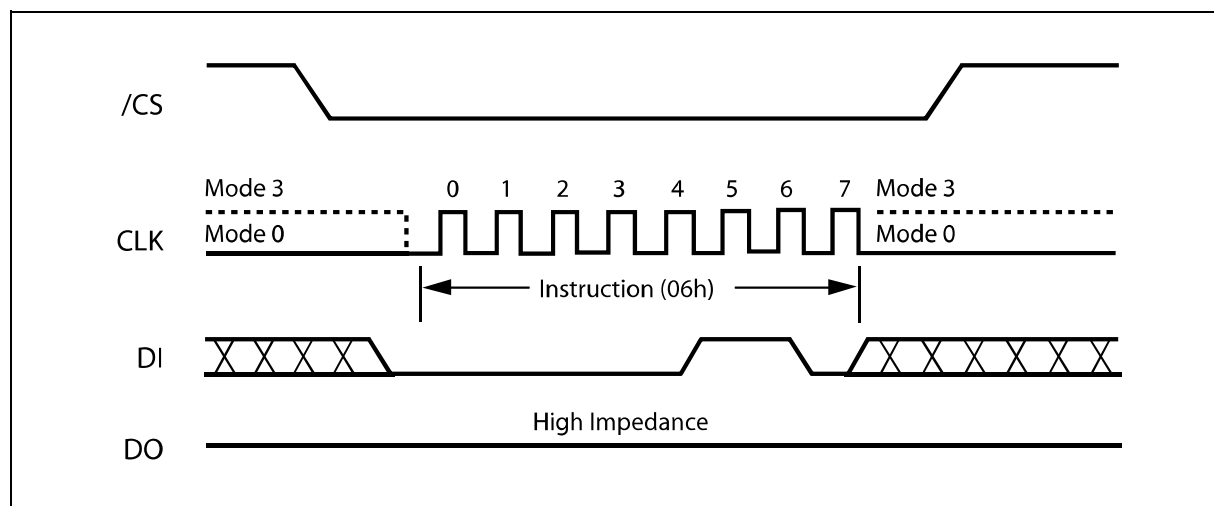

Figure 4. Write Enable Instruction Sequence Diagram
Instructions vary in length from a single byte to several bytes and may be followed by address bytes, data bytes, dummy bytes (don't care), and in some cases, a combination. Instructions are completed with the rising edge of edge /CS. Clock relative timing diagrams for each instruction are included in figures 4 through 30. All read instructions can be completed after any clocked bit. However, all instructions that Write, Program or Erase must complete on a byte boundary (/CS driven high after a full 8-bits have been clocked) otherwise the instruction will be terminated. This feature further protects the device from inadvertent writes. Additionally, while the memory is being programmed or erased, or when the Status Register is being written, all instructions except for Read Status Register will be ignored until the program or erase cycle has completed.
The Write Enable instruction (Figure 4) sets the Write Enable Latch (WEL) bit in the Status Register to a 1. The WEL bit must be set prior to every Page Program, Sector Erase, Block Erase, Chip Erase and Write Status Register instruction. The Write Enable instruction is entered by driving /CS low, shifting the instruction code “06h” into the Data Input (DI) pin on the rising edge of CLK, and then driving /CS high.